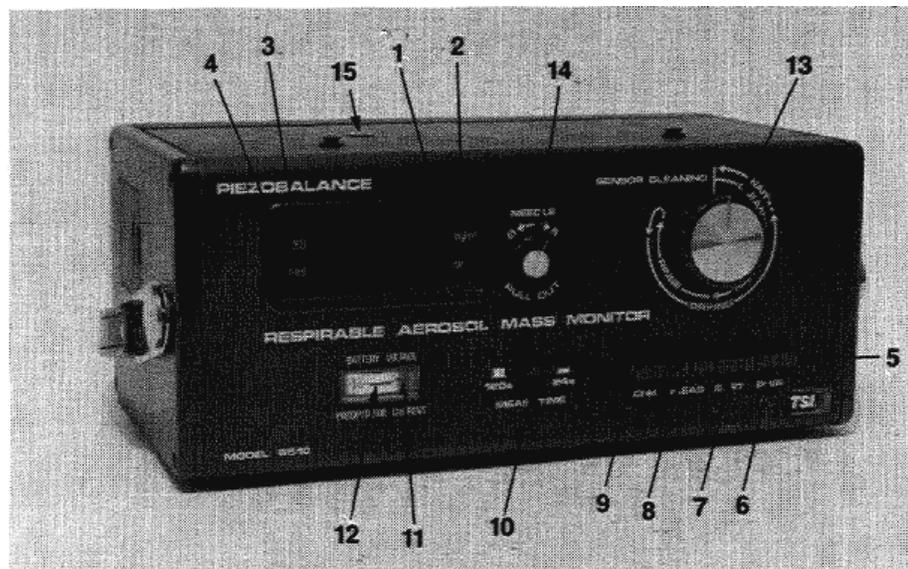

Figure 12. Parts and functions of the PIEZOBALANCE
Control Panel The control panel of the PIEZOBALANCE is shown in Figure 12. Its functions are described below.
HZ Light (1, Figure 12) indicates that a sensor frequency measurement is being displayed.
MG/M3 Light (2, Figure 12) indicates that a mass concentration, in milligrams per cubic meter, is being displayed.
X 5 Light (3, Figure 12) indicates that the displayed concentration must be multiplied by a factor of 5 to obtain the correct reading. The X 5 light becomes active when you select the 24-second sampling time.
NEG Light (4, Figure 12) indicates that the displayed concentration is in error, specifically, the change in frequency of the sensor was not steadily increasing. The concentration is too low for the current sampling time and a longer sampling time is required.
The functions of the four operational pushbuttons on the control panel (5, Figure 12) are explained below.
PWR Pushbutton (6, Figure 12) starts the vacuum pump in the PIEZOBALANCE and powers up the entire unit.
STRT Pushbutton (7, Figure 12) starts a mass concentration measurement (if MEAS button is already depressed) or a Basic Frequency check (if CHK button is already depressed).
MEAS Pushbutton (8, Figure 12) activates the electrostatic precipitator. The entire time the MEAS button is depressed, aerosol is being collected on the sensor. The precipitator current needle should rise slowly and stop in the middle of the Operation Monitor after depressing the MEAS button.
CHK Pushbutton (9, Figure 12) which is short for (sensor check), displays the sensor's base frequency. The base frequency should be compared to the Basic Frequency periodically to determine if the sensor needs to be cleaned.
MEAS TIME Button (10, Figure 12) enables you to select either a 24-second or 120-second measurement time.
BATTERY VOLTAGE (11, Figure 12) displays the charge level of the batteries. When the PWR button is pressed, the needle should read well in the center of the blue region.
PRECIPITATOR CURRENT (12, Figure 12) displays the current level of the precipitator. Within a couple seconds of pressing the MEAS button, the needle should read well in the center of the black region.
Sensor-cleaning dial (13, Figure 12) controls the placement of the detergent sponge and rinse sponge for cleaning the sensor.
NEEDLE O-S (14, Figure 12) indicates the position of the precipitator needle. The precipitator needle should be in the open (O) position for removal. It should be in the shut (S) position for operation.
Aerosol Inlet (15, Figure 12) is where the aerosol to be measured is drawn into the PIEZOBALANCE. The inlet contains an impactor to eliminate particles above the impactor cut size. The instrument is shipped standard with a 3.5 micron impactor.